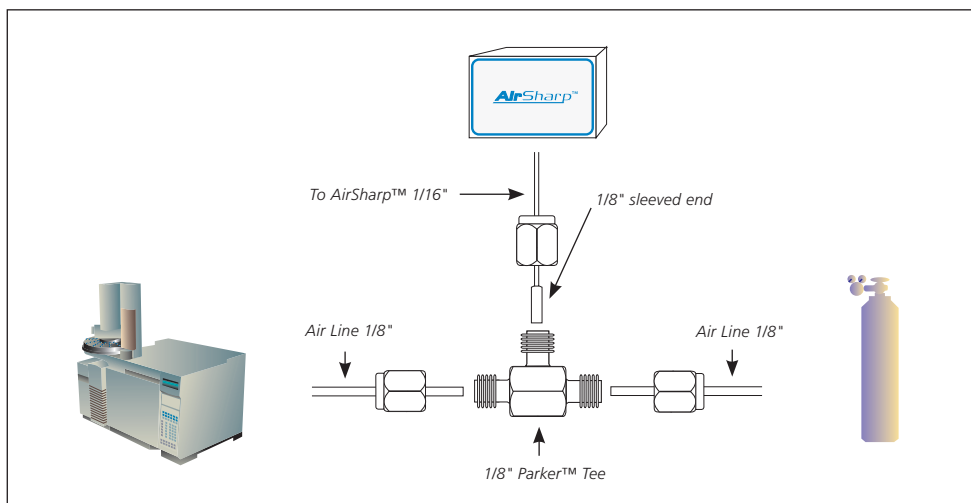
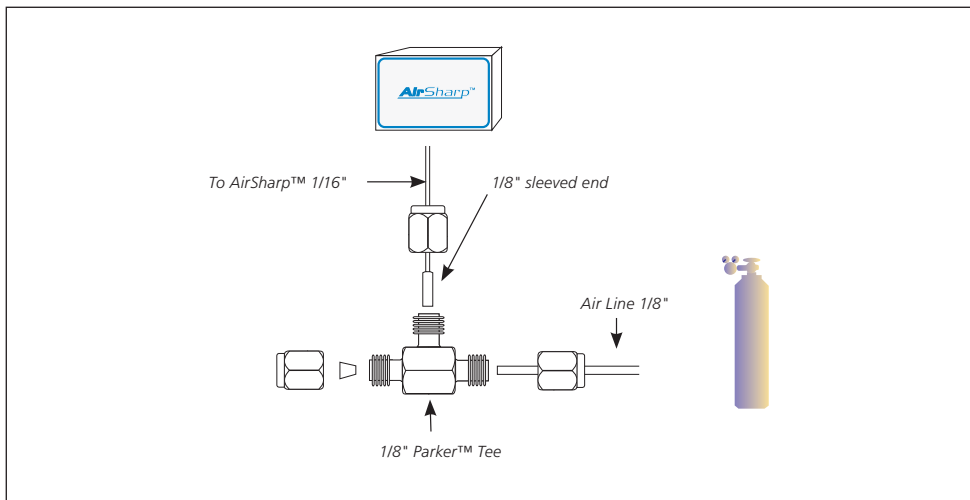

Figure 8.
Figure 9.
- Connect the 1/8" Parker™ tee to the air line and connect the 1/8" sleeved end of the 1/16" stainless steel tube to the sidearm of the tee, as shown in Figure 8.
If the GC does not require compressed or bottled air (non FID/PID GCs), one side of the tee will not be connected to the GC as shown in Figure 8. If this is the case, use the 1/8" ferrule with no hole to block the vacant side of the tee. As shown in Figure 9.